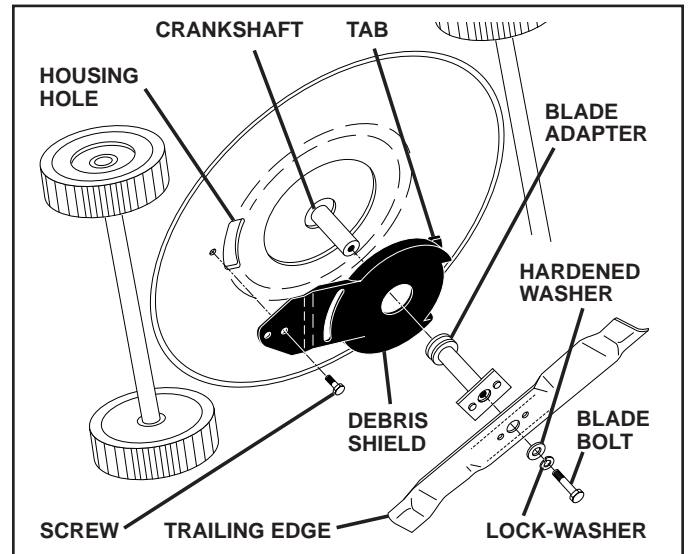

FIG. 19
6. Remove screw securing debris shield. Note that the debris shield has a tab which fits into a gap in the housing (See Fig. 19).
4. Position blade on the blade adapter aligning the two (2) holes in the blade with the raised lugs on the adapter.
5. Be sure the trailing edge of blade (opposite sharp edge) is up toward the engine as shown (See Fig. 19).